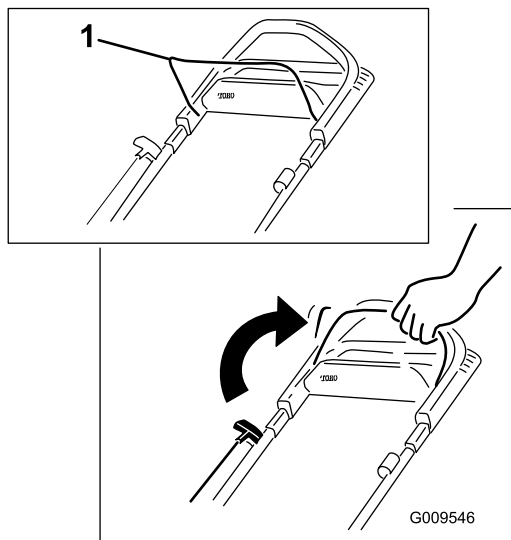

Figure 13
1. Hold the blade-control bar against the handle (Figure 13).